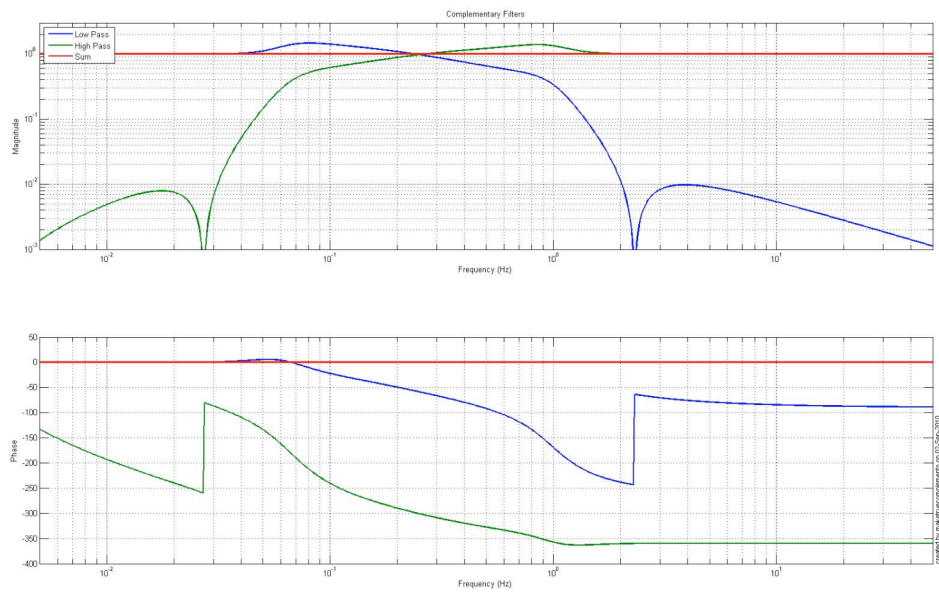
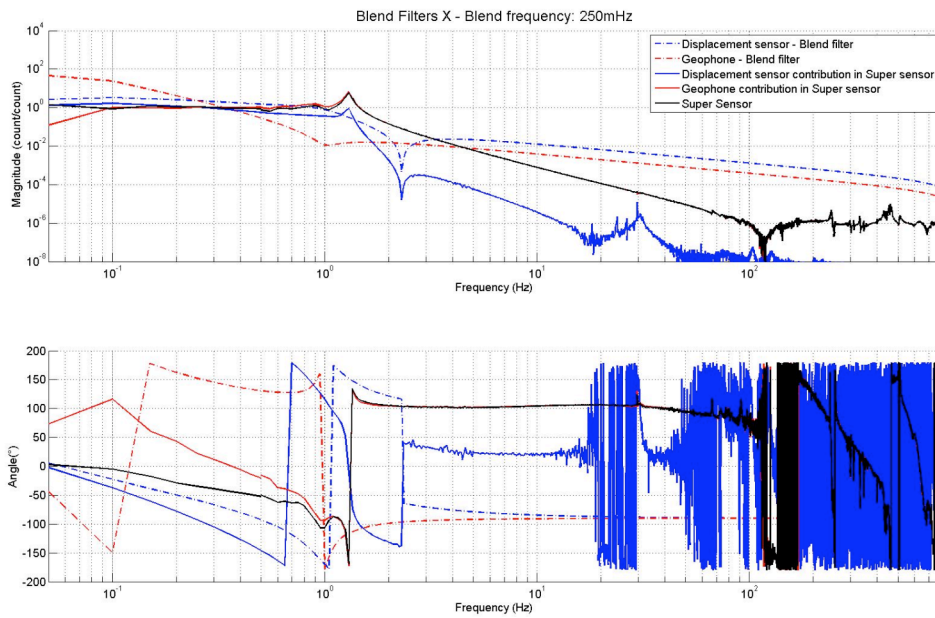

Figure 3 - Complementary filters
Figure 4 - Super sensor X axis
- Two complementary filters are built (figure 3). Two blend frequencies (250mHz and 1Hz) have been used during tests. “X-axis super sensor” response is presented in figure 4.